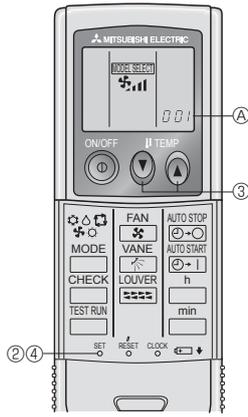

Fig. 6-2
1) Setting (Fig. 6-2)
- ① Insert batteries.
- ② Press the SET button with something sharp at the end.